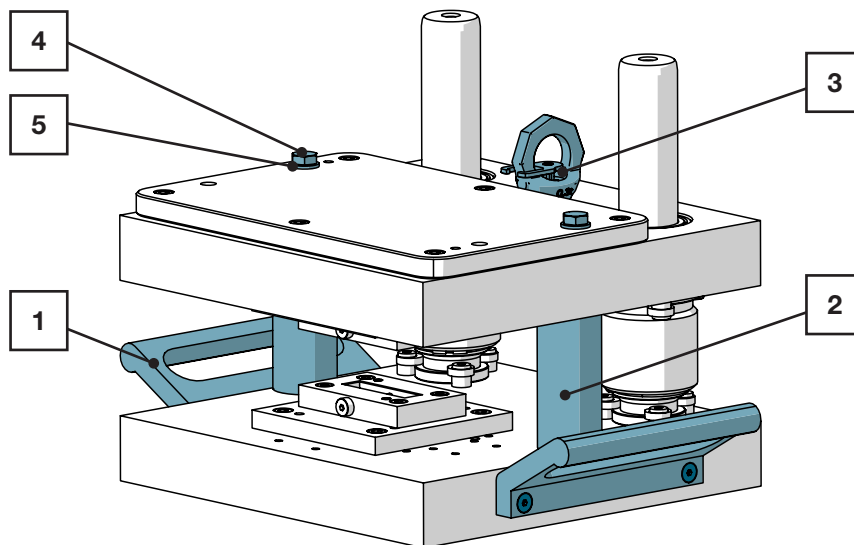

Fig. 2: Handling parts of the swaging tool
- ▶ Always install all safe handling components before lifting or moving the tool (see figure 2).